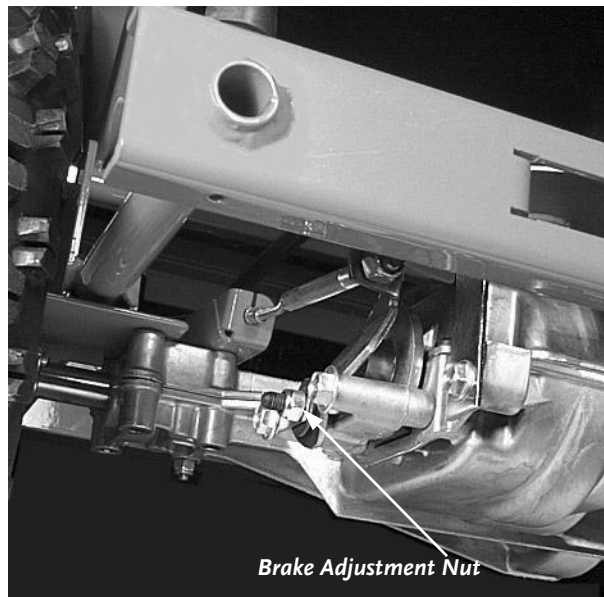

Figure 21
NOTE: If your DR POWERWAGON-PREMIER rolls on slopes when the Parking Brake is set, or if you can't get the Parking Brake to set, it needs to be adjusted (**Figure 21**).
4. If it does move, turn the Brake Adjustment Nut on the Transaxle (**Figure 21**) 1/4 turn clockwise with a 1/2" Wrench to tighten the Parking Brake. Test the Parking Brake as described in Steps 1-3. Repeat the adjustment if necessary.
5. If you can't get the Parking Brake to release, turn the Brake Adjustment Nut (**Figure 21**) on the Transaxle 1/4 turn counterclockwise with a 1/2" Wrench to loosen the Parking Brake. Test the Parking Brake, as described in Steps 1-3. Repeat the adjustment if necessary.